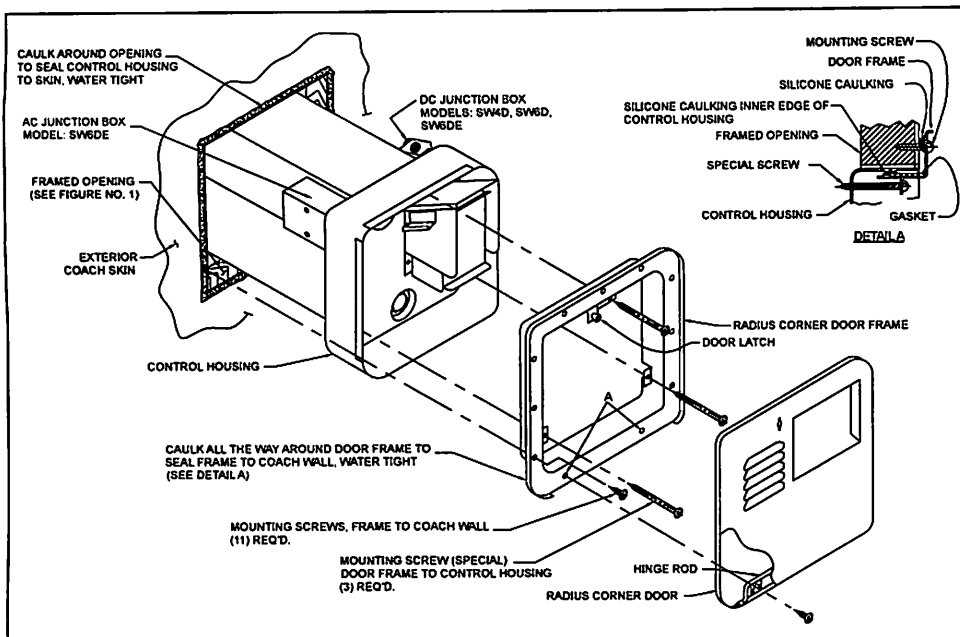
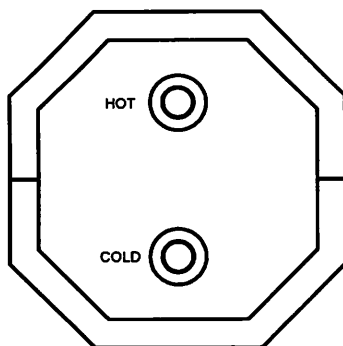
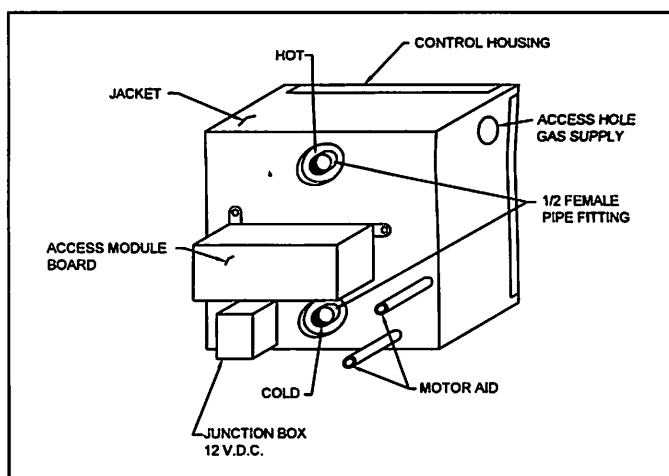

Figure 3
Figure 7
Figure 8
## INSTALLATION USING HINGED DOOR (See Figure 3 on page 4, for illustration)
- D. Lay a bead of silicone caulking (or suitable caulking) around the inner edge of the control housing (top, bottom and sides). See detail "A" in Figure 3. This will seal frame to control housing.
- E. Apply a bead of silicone caulking (or suitable caulking) around back side of door frame. See detail "A" in Figure 3. This will seal frame to coach skin.
- F. Fit the door frame into control housing (over the caulking already applied) and pull frame tight to control housing using the three (3) No. 8-15 x 3 1/2" screws provided.
- NOTE:** The two (2) holes in bottom of frame identified as "A" in Figure 3 are also used to mount door hinge to the frame.
B. Refer to Figure 3 for location of D.C. junction box on models SW4D, SW6D and SW6DE. Refer to Figure 8 and 9 for location of D.C. junction box on models SW6DM and SW6DEM.
A. Water connections are made at the rear of the water heater. Refer to Figure 7 for all models except SW6DM and SW6DEM. For SW6DM and SW6DEM, refer to Figure 8 or 9. Connect the hot and cold water lines to the 1/2" female pipe fitting provided on rear of tank. These fittings are marked "HOT" and "COLD". **NOTE:** Inside each fitting is a plastic fill tube. Its purpose is to enhance water circulation. **DO NOT REMOVE PLASTIC FILL TUBE.**